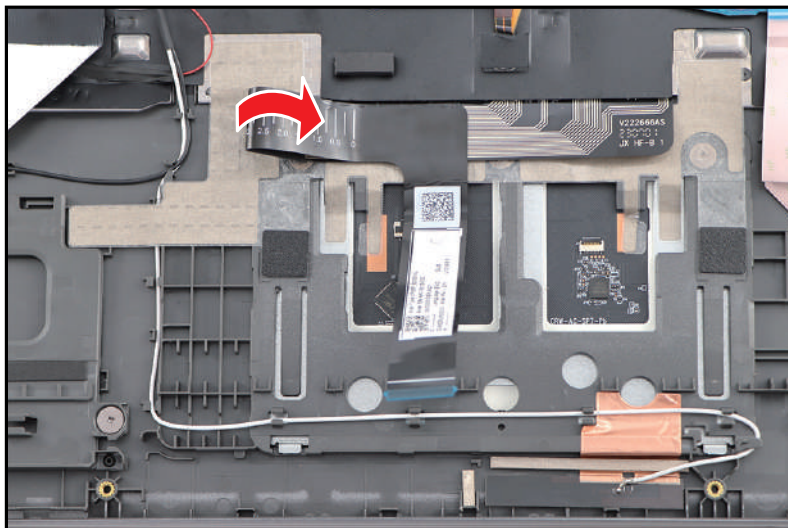

Figure 3-105. Top Assembly
- b. Fold the keyboard FPC (Figure 3-105).